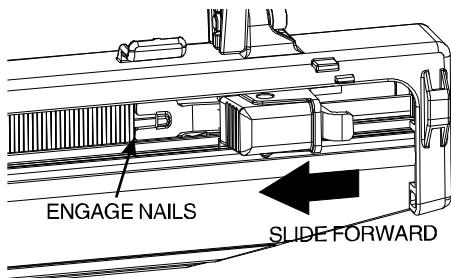

Figure 4
4. Once the pusher hits the back of magazine, allow the pusher to slide forward and engage the nails, pushing them to the nose of the tool. (See figure 4)